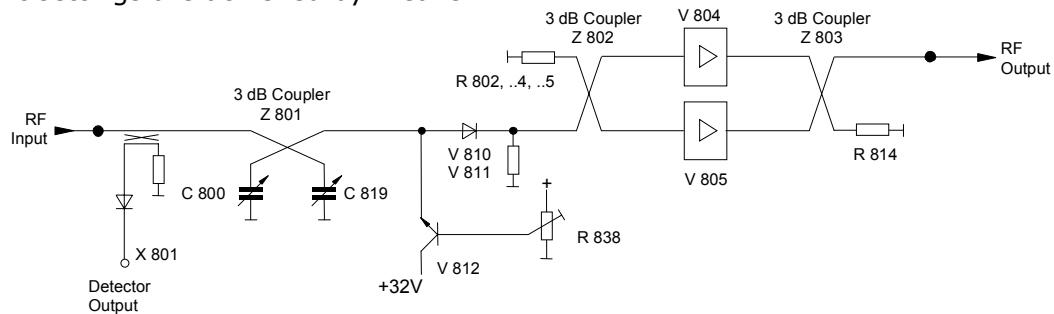

Figure 4-1: 40 Watt UHF Amplifier Module
The output of the UHF filter is connected to the input J1 of (A2) the 40 Watt UHF amplifier assembly (Figure 4-1). The assembly is made up of a (51-5378-308-00) module, which operates class AB and is a highly linear broadband amplifier for the frequency range of 470 to 860 MHz. It can
amplifier assembly (Figure 4-1). The assembly is made up of a (51-5378-308-00) module, which operates class AB and is a highly linear broadband amplifier for the frequency range of 470 to 860 MHz. It can deliver an output power of 40 watts (CW) with approximately 14 dB of gain. It is set as needed to provide the drive level to the external PA Assemblies.